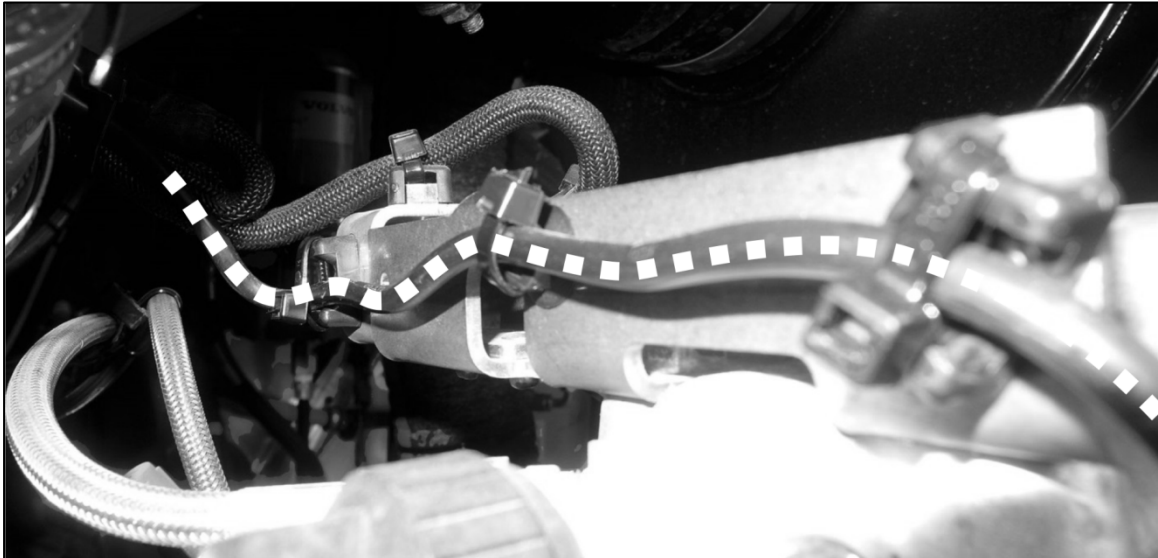

Figure 19 –Clutch cable.
- 2.13.7. Seal each wire with shrink tube. Seal over the two wires and cable isolation with the larger shrink tube. (Fig. 19)